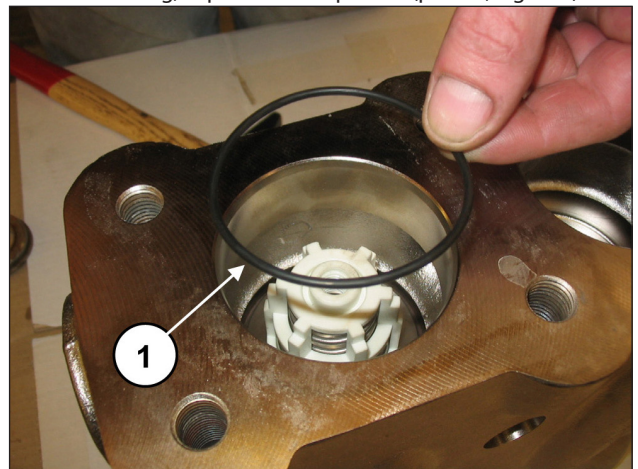

Fig. 121
Insert the O-ring, exploded view pos. 19 (pos. ①, Fig. 121).